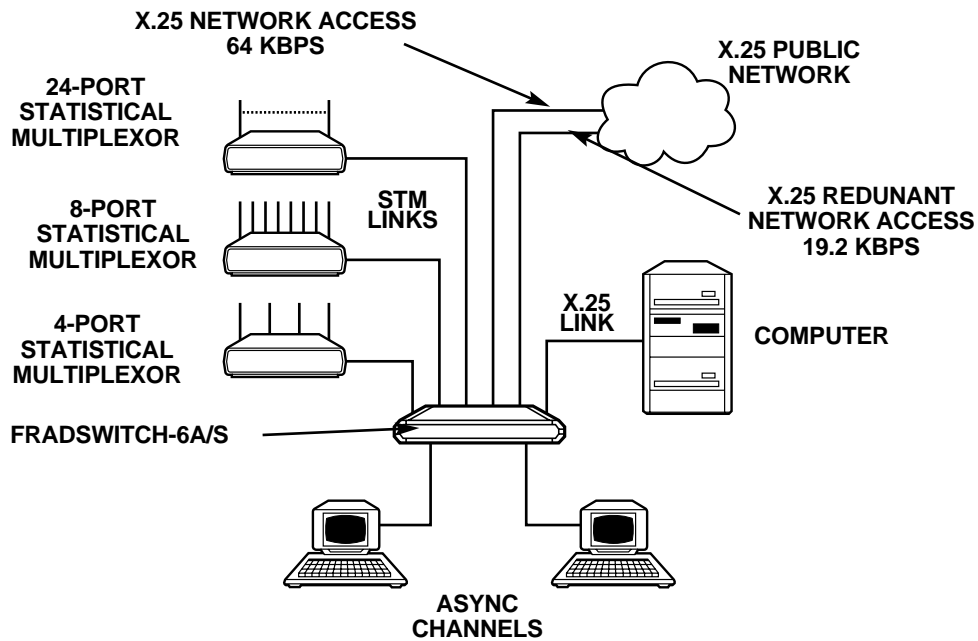

Figure 2-2. Fradswitch-6A/S providing X.25 switching and async channel expansion.
- Expansion of the number of asynchronous inputs, using statistical multiplexors (proprietary). (See **Figure 2-2.**)